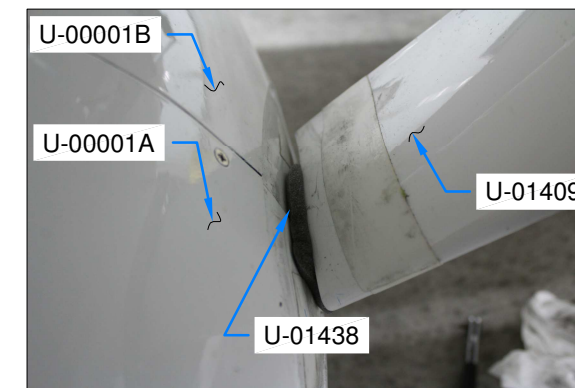

FIGURE 4: WHEEL FAIRING SEAL INSTALLED
Step 5: Install the wheel fairings with the wheel fairing seals captured between the wheel fairing halves and the gear leg. The wheel fairing seal should be approximately half way outside and half way inside of the wheel fairings as shown in Figure 4.